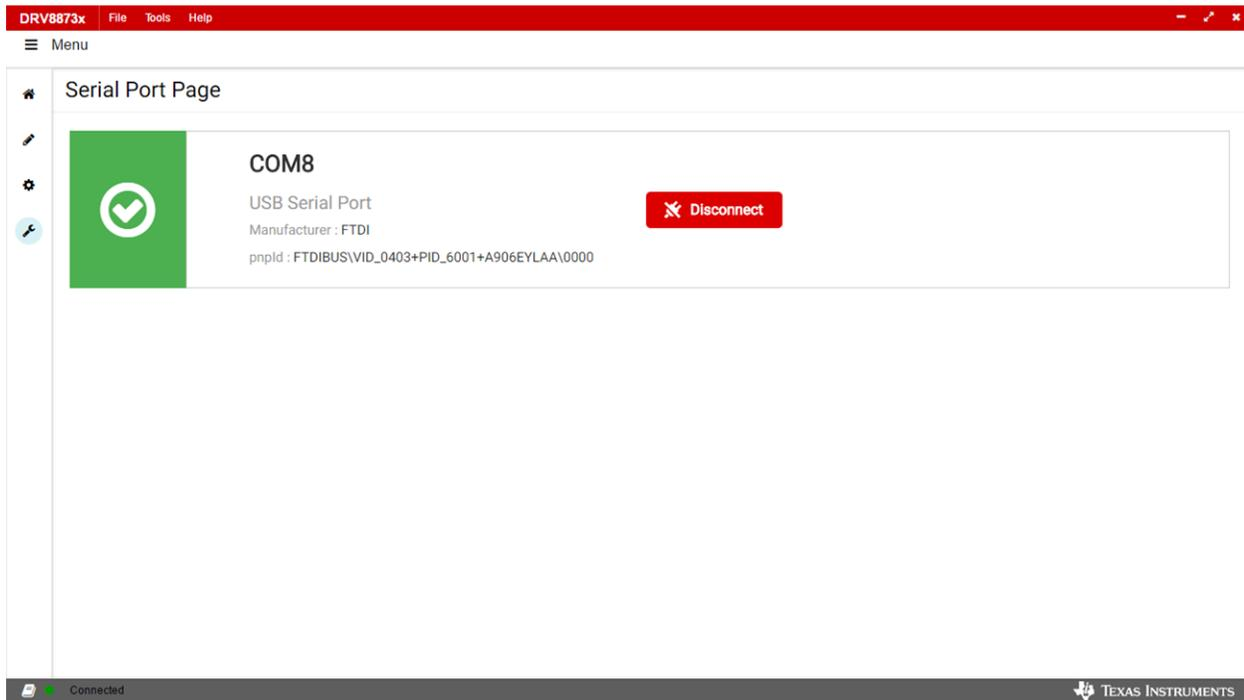

Figure 2. DRV8873x EVM GUI (Serial Port Page Showing the Required Friendly Name)
- Step 6. The first matching device(device supported by the app for selected variant) that is connected to the PC will be auto connected to the application. If multiple devices are connected go to the Serial Port page by clicking the wrench icon in the sidebar menu to manually select an available COM port. The Serial Port page displays the list of COM ports available and have connect/disconnect button for the matching devices of the app as shown in Figure 2. If no hardware is physically connected to the PC, -- No Device Connected -- will be displayed.
- Step 7. Select the relevant COM port from the drop-down menu (as shown in Figure 2) and click the *Connect* button.